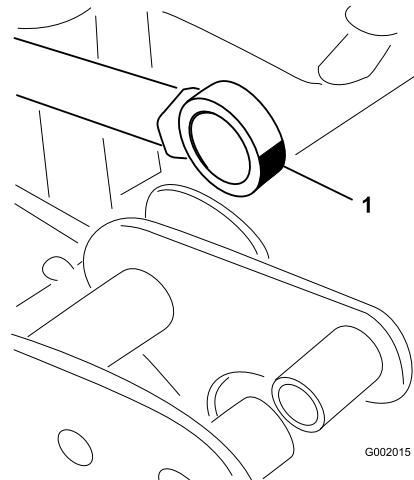

**Figure 74**
2. Remove the hairpin from the clevis pin (Figure 74).
3. Lift up on the section, remove the clevis pin, and slowly lower the section to the ground (Figure 74).
7. While supporting the spray section, insert the clevis pin through both boom pivot and actuator rod (Figure 74).